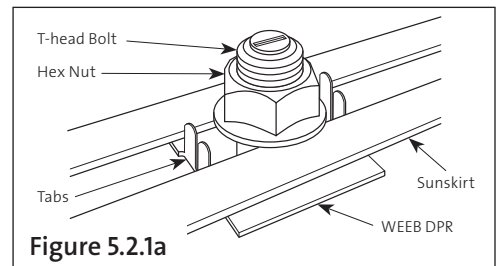

Figure 5.2.1a
5.2.1. Place the WEEB DPR (EC1204) on the T-head bolt (SH0001), with the WEEB's tabs pointing away from Bolt's T-head. Then insert Bolt through the Sunskirt's slot and thread on the Hex Nut (EC0496) until about three threads show beyond the Hex Nut. Refer to **Figures 5.2.1a & 5.2.1b**.